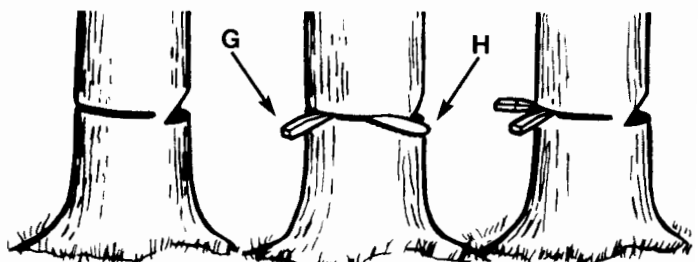

Fig. 10
1. Use wooden or plastic wedges (G) to prevent binding the bar or chain (H) in the cut. Wedges also control felling (Fig. 10).